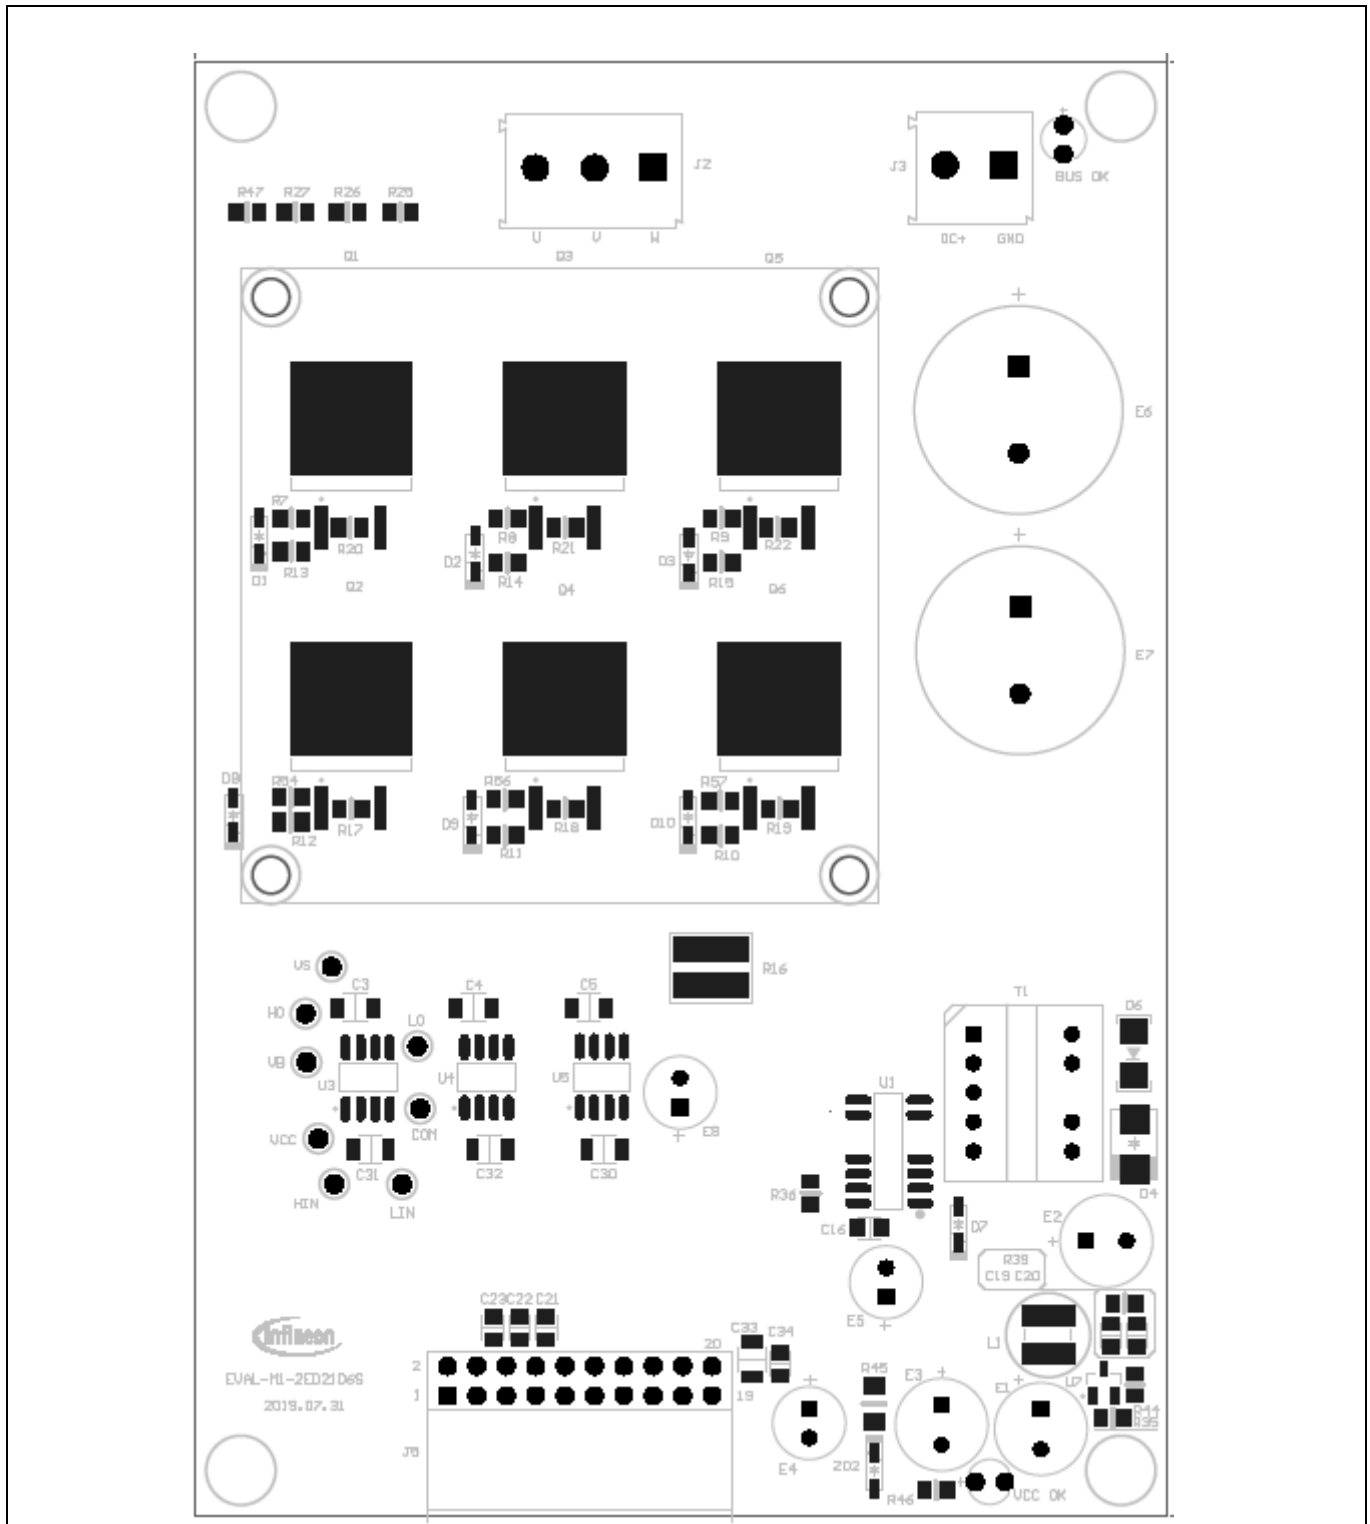
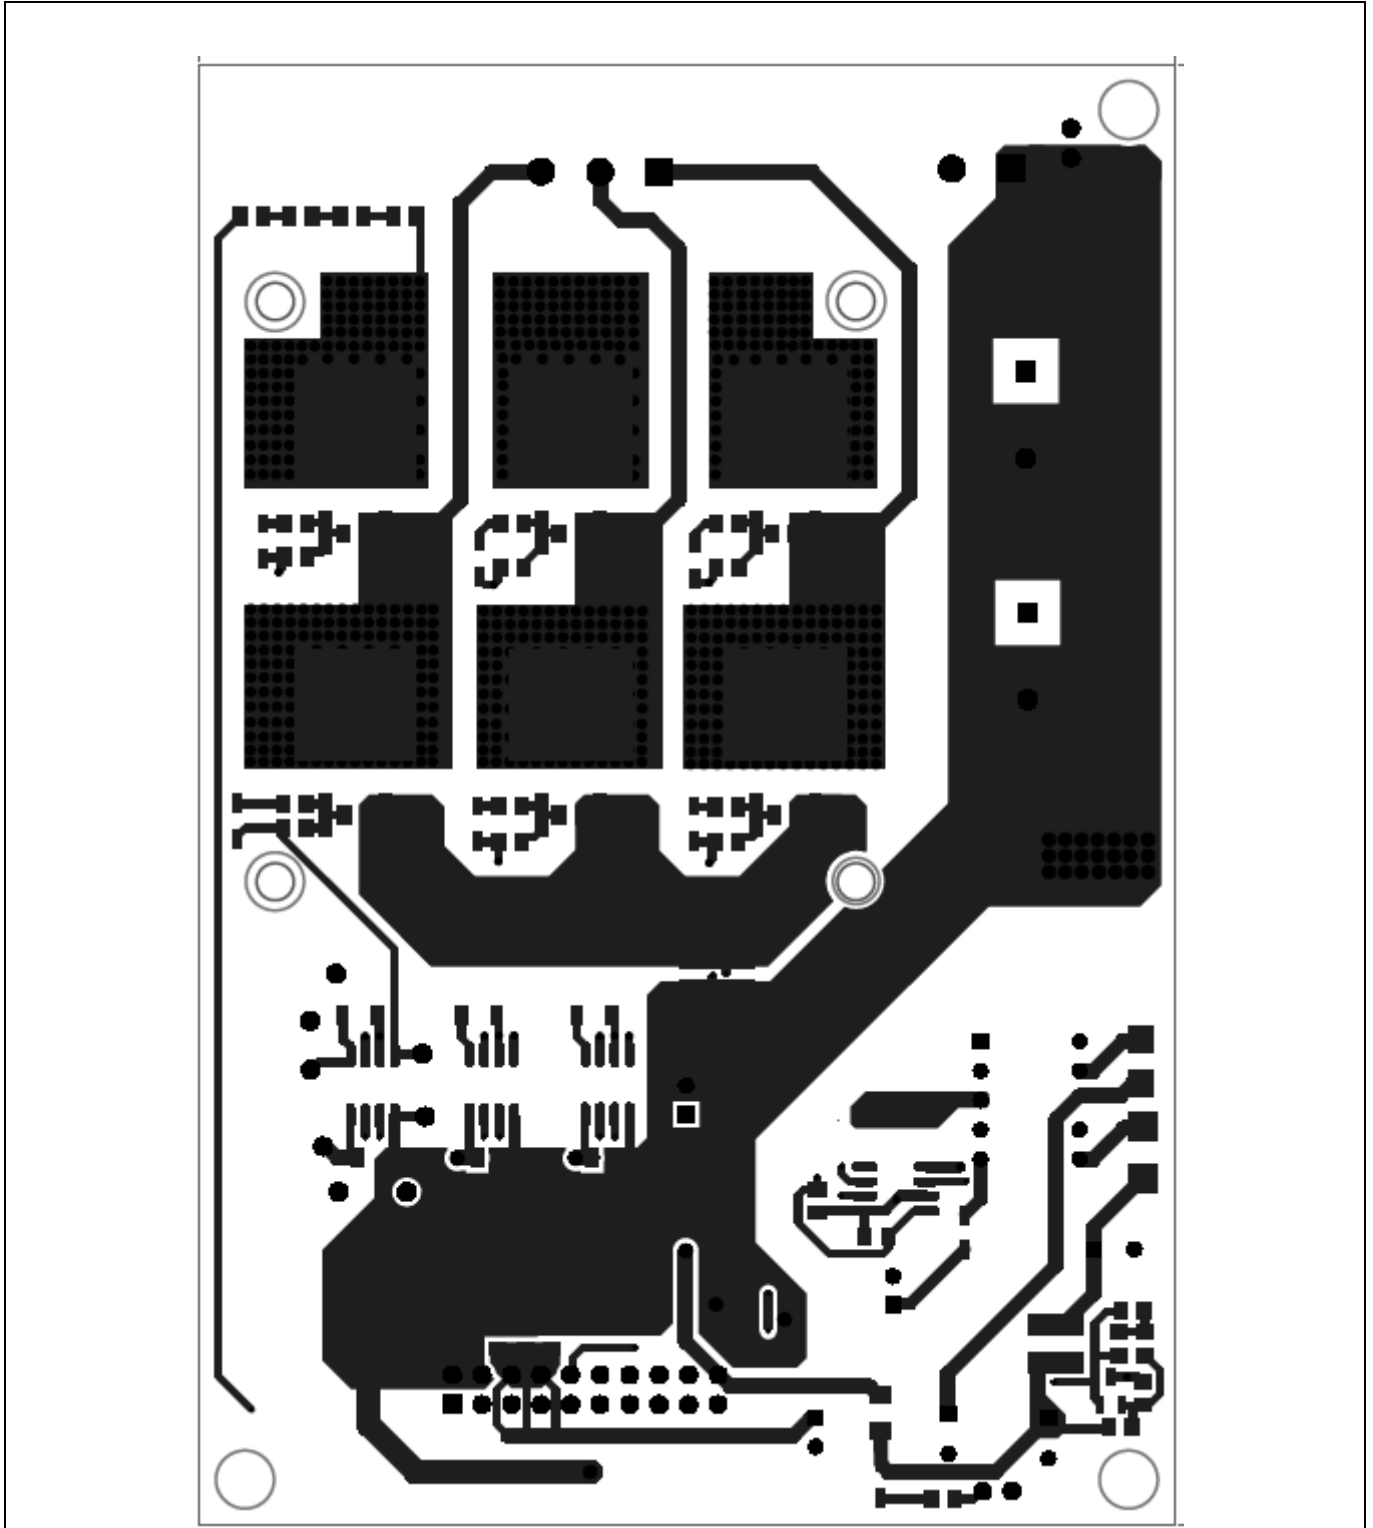
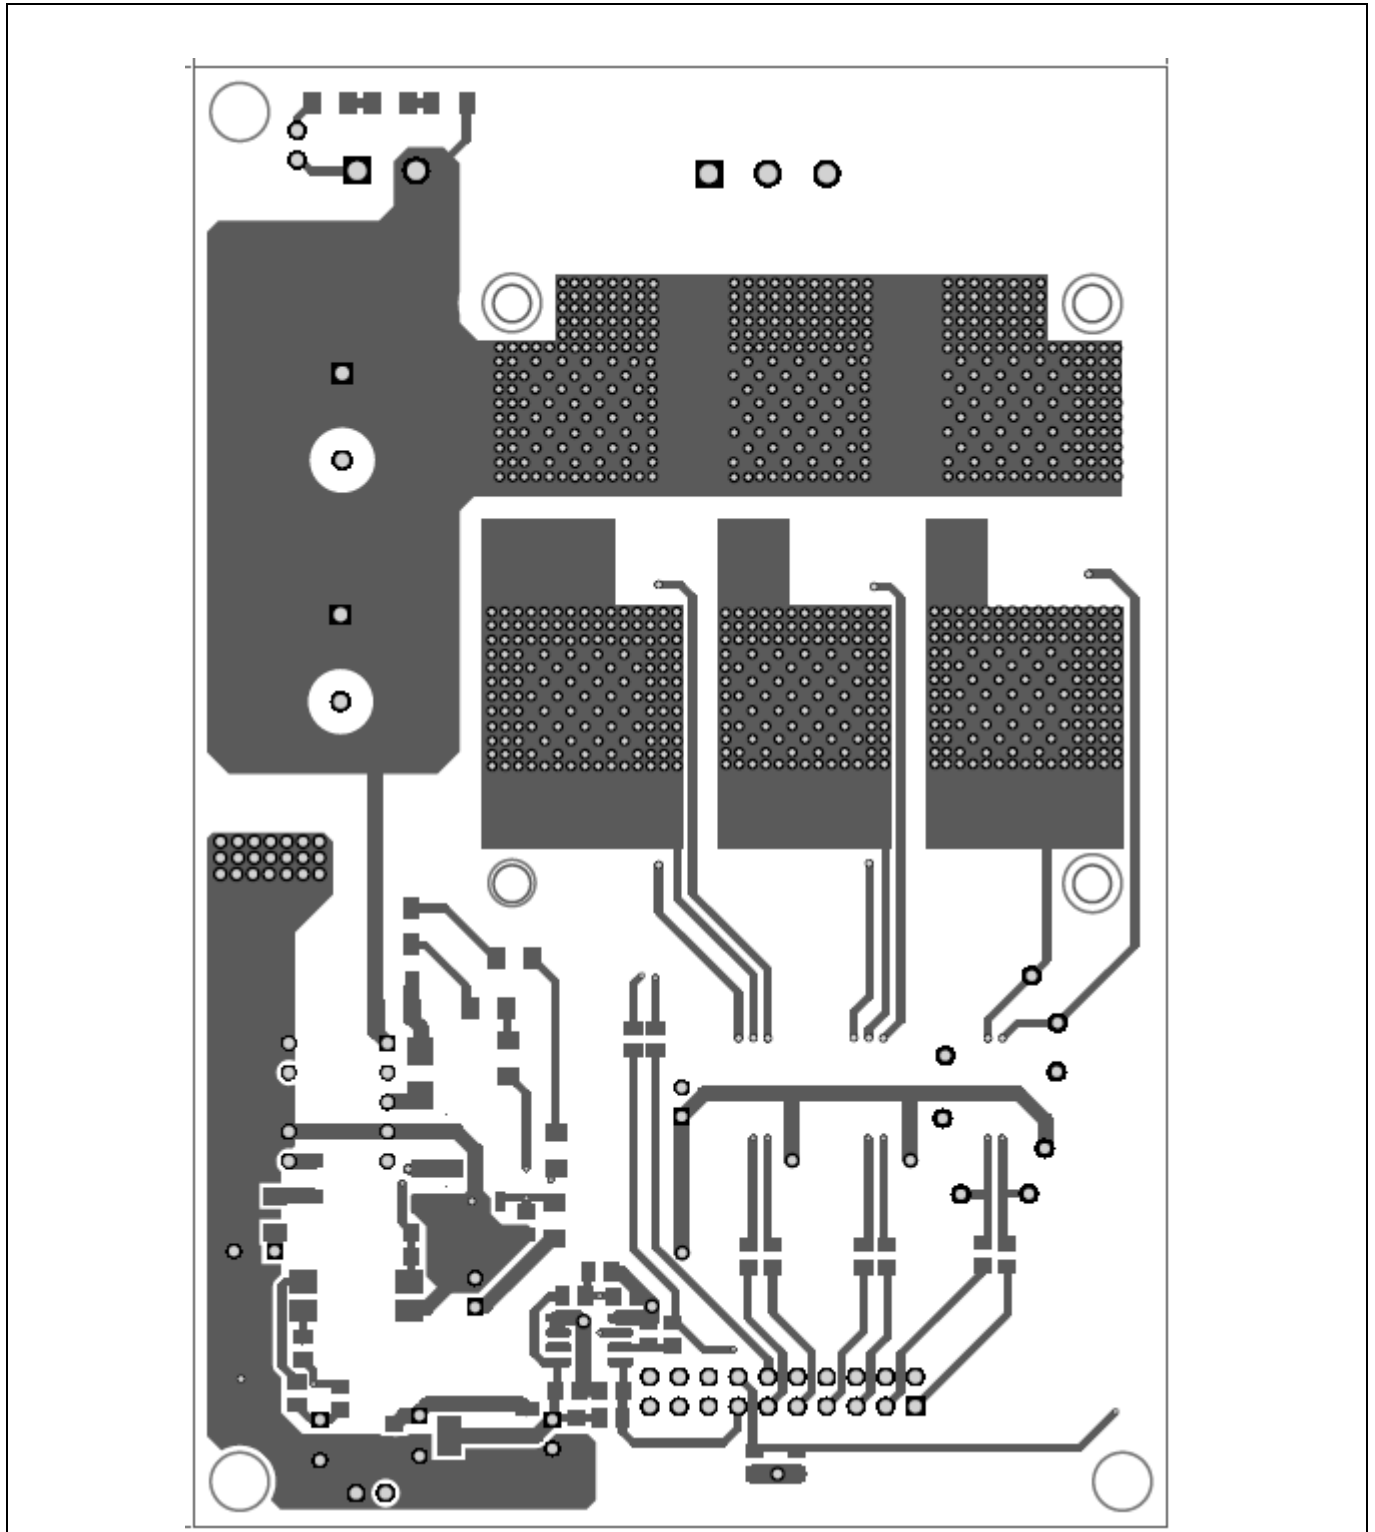

Figure 14 Top assembly drawing
Figure 15 Top layer routing
Figure 17 Bottom layer routing
The layout details of the EVAL-M1-2ED2106S can be seen in Figure 14, Figure 15, Figure 16 and Figure 17, respectively.
- The power ground and controller ground should be individually copper-filled (in the production process) and then shorted at the return of the shunt resistor. In this way the LO-COM drive loop parasitic inductance and the HIN/LIN-COM input signal loop parasitic inductance are both as small as possible (see Figure 15 and Figure 17).